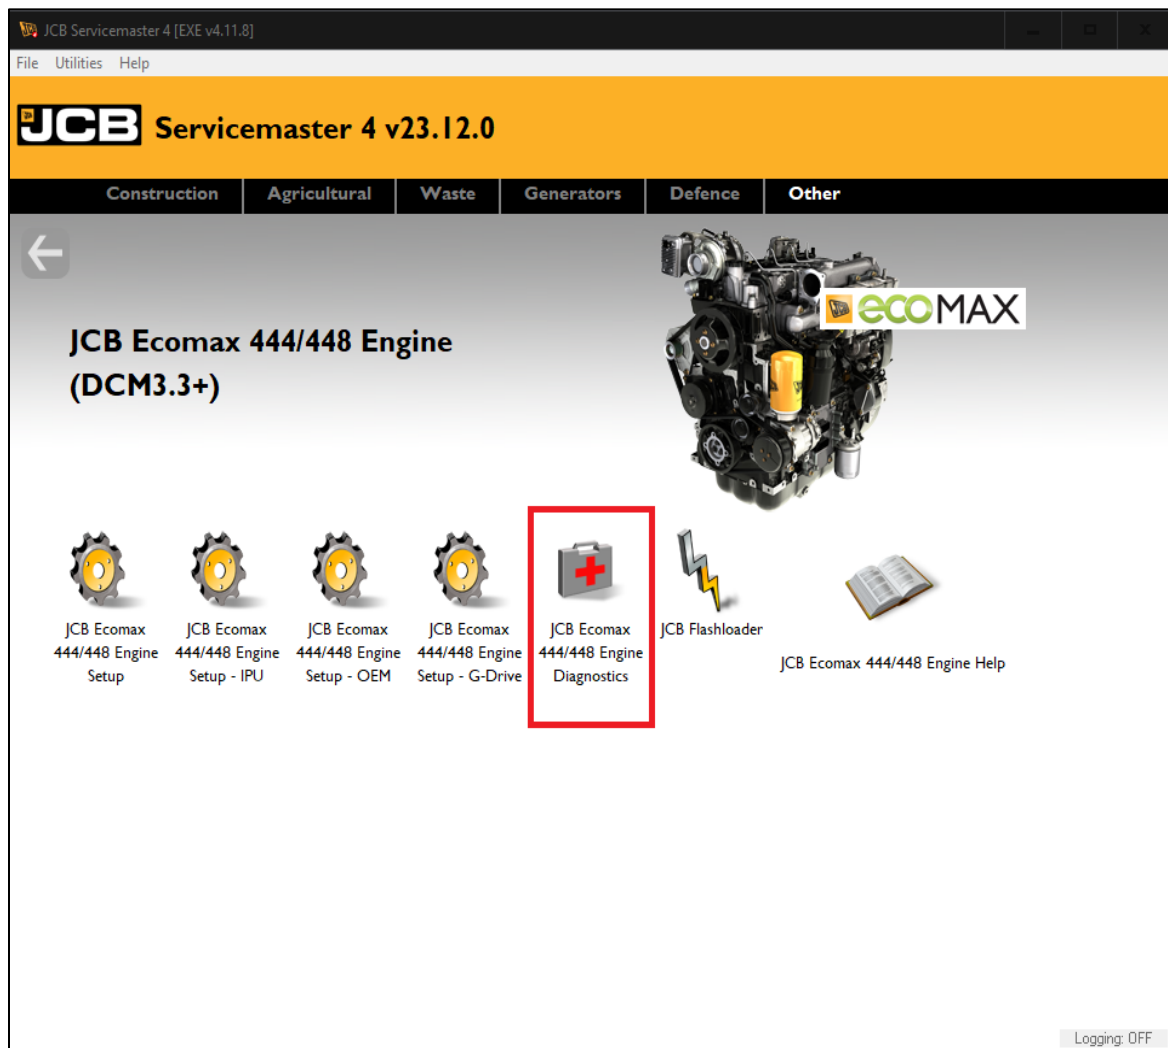

Figure 1
1. Open the JCB EcoMax Engine Diagnostics tool once connected to the machine and having the machine 'Keyed On'. See figure 1.